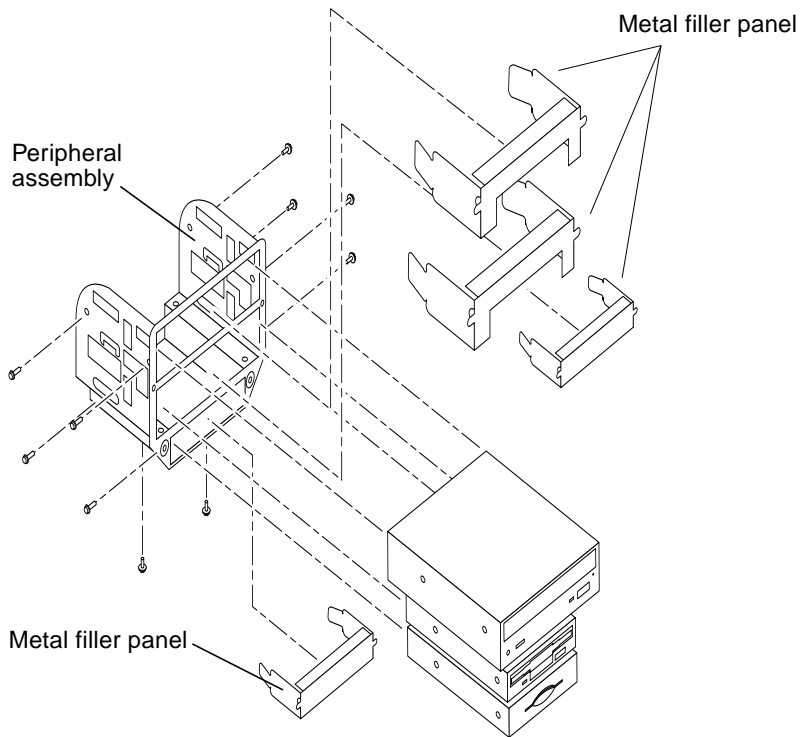

FIGURE 6-19 Removing and Replacing Metal Filler Panels
4. Remove the metal filler panel from the peripheral assembly (FIGURE 6-19).
1. Position and snap the metal filler panel into the peripheral assembly (FIGURE 6-19).